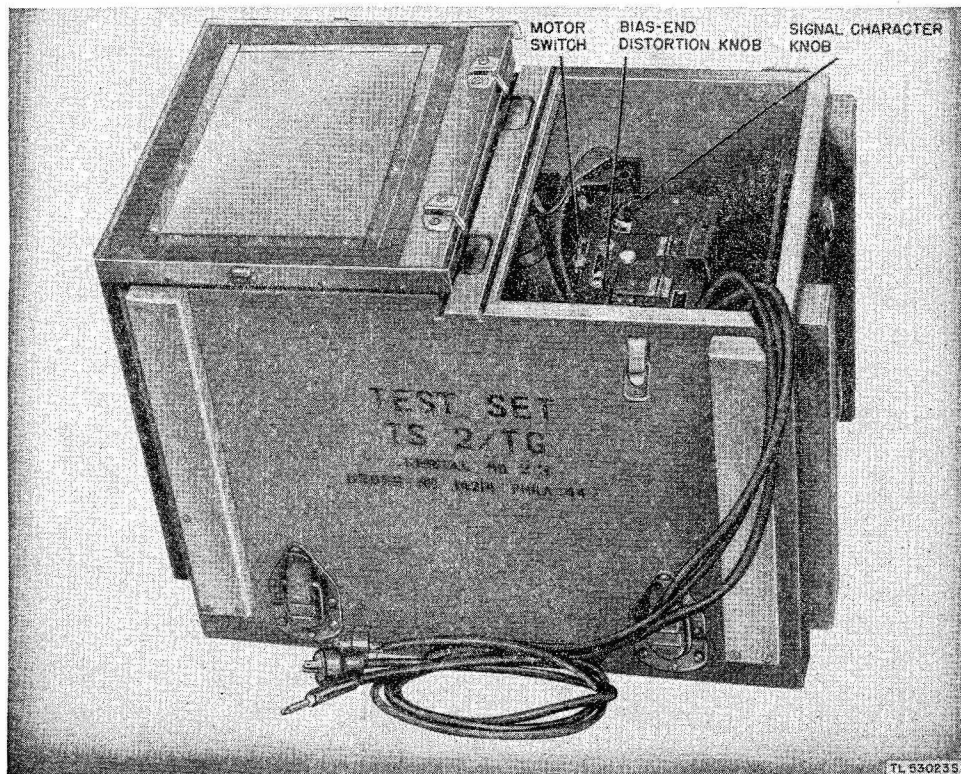

Figure 38. Test Set TS-2/TG.
c. Test Set TS-2/TG (fig. 38), which is used widely in teletypewriter repair shops, is a portable, motor-driven unit arranged to transmit normal or distorted signals for testing teletypewriter circuits and checking the efficiency of start-stop selector units on teletypewriter equipment. By using this test set in a teletypewriter circuit, it readily can be determined